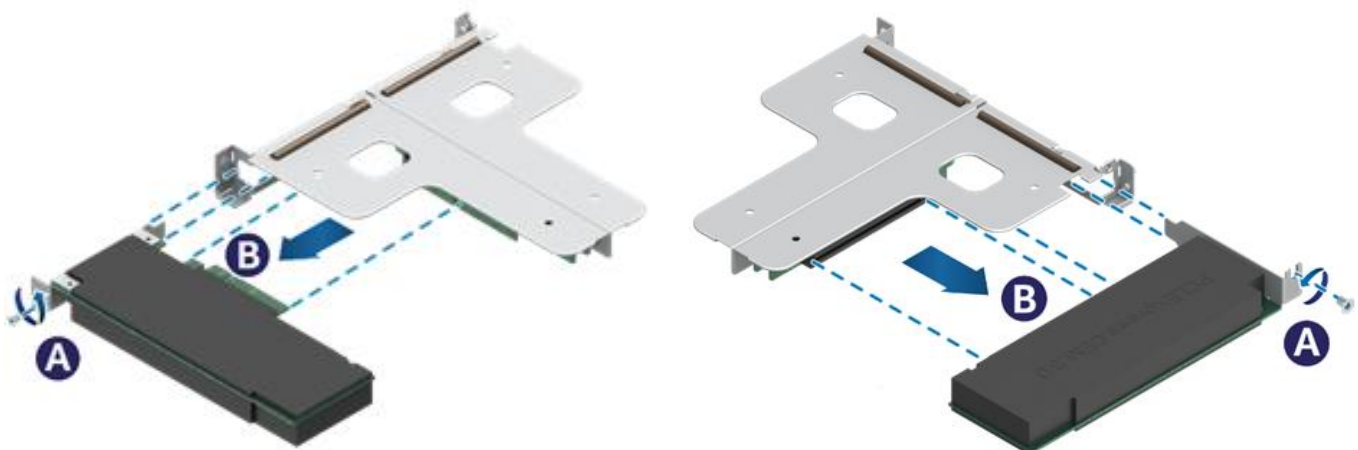

Figure 77. PCIe* Add-in Card Removal
5. Remove the add-in card from the riser card (see Figure 77).